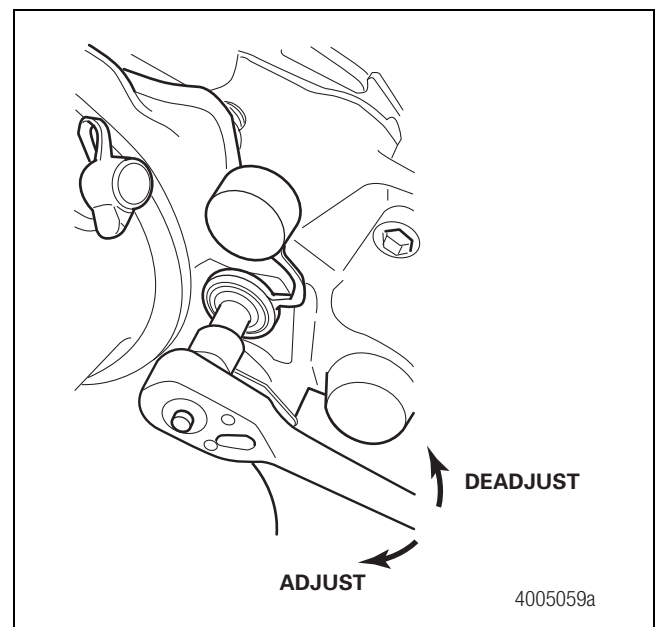

Figure 5.28
2. Use a 10 mm wrench to rotate the manual adjuster stem **CLOCKWISE** so that the brake pad-to-rotor clearance is **ZERO**. Figure 5.28.
3. Deadadjust the manual adjuster stem one half turn **COUNTERCLOCKWISE** to set the initial running clearance. Reinstall the adjuster cover. Figure 5.28.